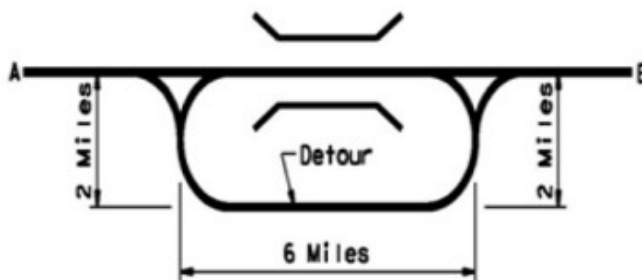

Figure 102. Detour map for a highway feature carried on the bridge.
**Culvert Condition** – Condition rating of culvert. This rating will be based on the data in National Bridge Inventory item 62.
**Deck Condition** – Condition rating of the part of the structure that carries traffic. This rating will be based on the data in the NBI item 58.
**Detour Length** - Minimum additional length of travel required if the bridge in question was closed. Detour route shall be located on a full maintenance road and must allow passage of a legal weight, height, and width vehicle. The NBI detour length for an on-system bridge will be based on the location of the nearest on-system route that will allow the legal load to pass. For an off-system bridge, the detour length will be based on the nearest route that will allow passage for the legal load. NBI detour lengths are determined as impact to through traffic only (points A to B in Figure 102 and 103). User impact will be based on actual length as reported in the NBI. If detour length in the NBI is listed as "99" (indicates greater than 100 miles, or is a dead end), further investigation by SDDOT is required to ensure that an appropriate detour length is used. Refer to following for examples:
Highway feature carried on the bridge with a 4-mile detour (*Figure 102*). Report 4.